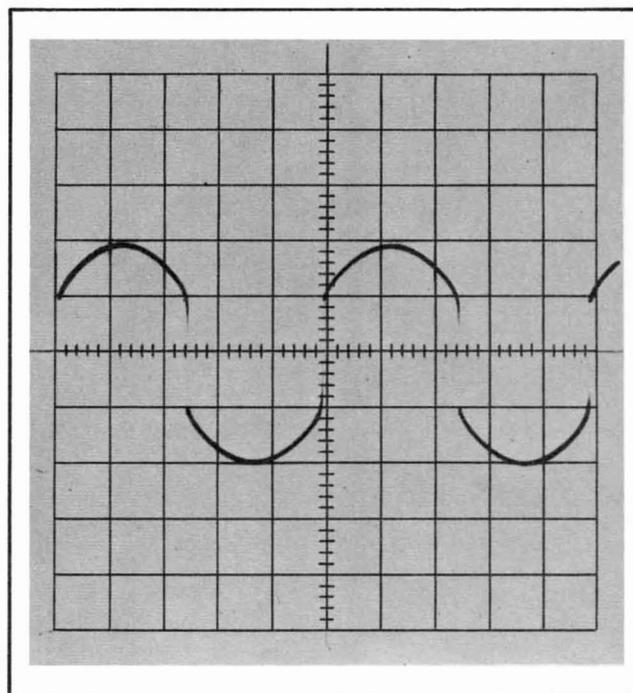

Figure 4-23. DIODE SWITCHING WAVEFORM
- h. Observe the diode switching waveform shown in Figure 4-23.